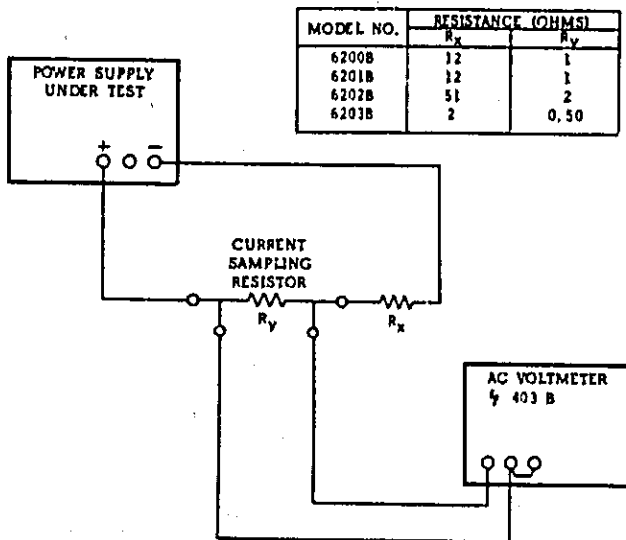

Figure 5-11. Ripple and Noise, Constant Current
- Connect test setup shown in Figure 5-11.